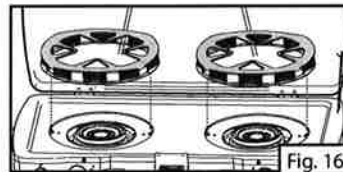

Fig. 16
2. Check and make sure that the two pins at the bottom of pan supports are fully inserted into slots on cooktop. (Fig. 16)